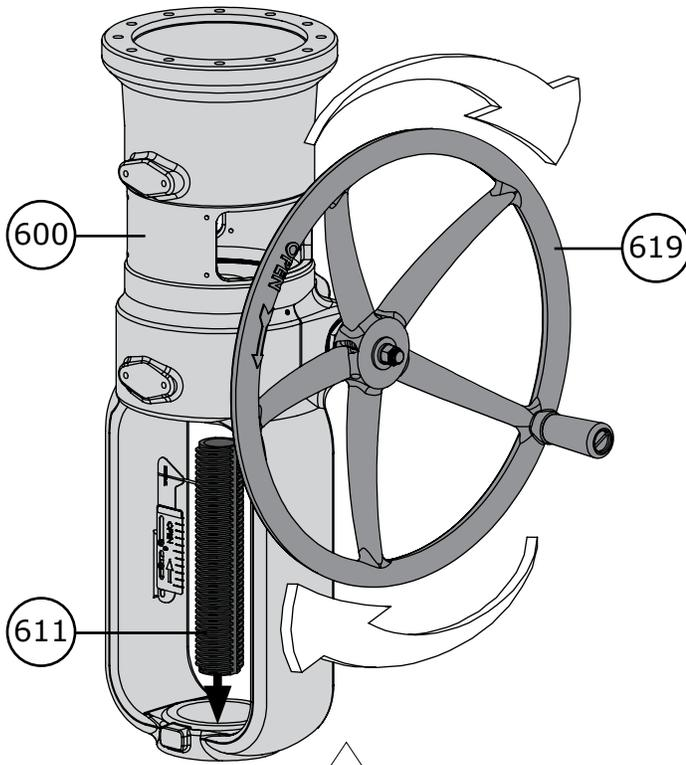

Figure 81 Lower Sleeve Removal
- 17** Rotate the handwheel (Key 619) so that the lower sleeve (Key 611) is moved out the bottom of the yoke (Key 600). **NOTE:** DO NOT move the neutral indicator scale (Key 620). Refer to Figure 81.